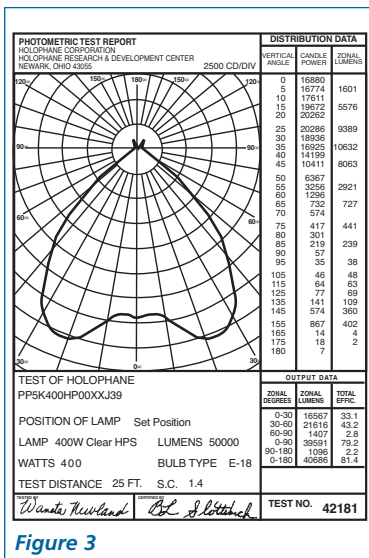

Figure 3
Now we can determine the candlepower of this luminaire from the cp curve, figure 3, to be 18936 (cp). When lighting a horizontal surface, angle β is equal to angle Θ . The illuminance (E) is then: